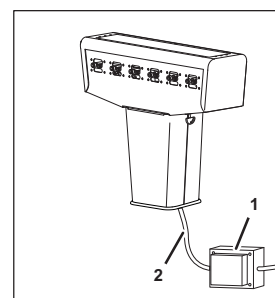

Fig. 10
1. Disconnect the electrical cable (Fig. 10/2) on the transformer (Fig. 10/1) in the undercounter cooler.